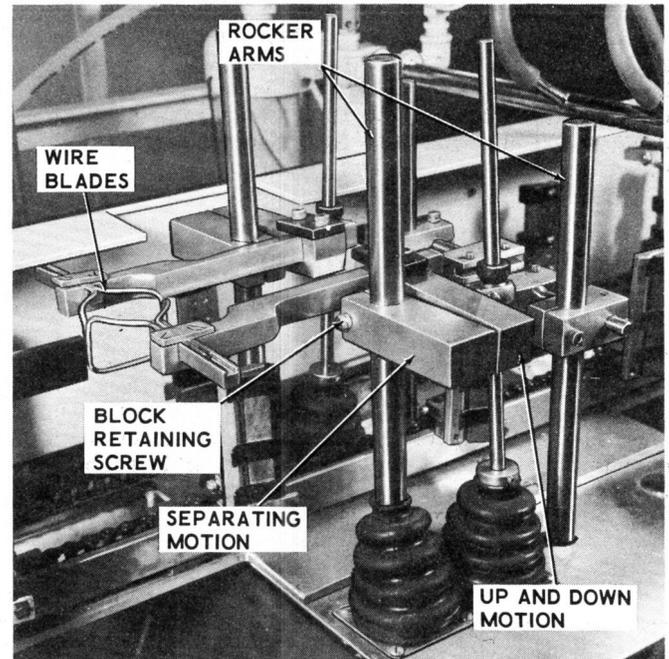

Figure 3-53. Wire Opener
This mechanism (Figure 3-53) opens the pouch during the fill operation by means of two wire blades. The wire blades are attached to rocker arms mechanisms which are actuated by a cycle shaft cam. The opener arms move down which places the wire blades into the pouch. Horizontal, outward motion is accomplished by a mating mechanism which acts to separate the two wire blades and thus open the pouch. This type of opener can be used with most web materials. Adjust the wire openers as follows:
a. Cycle Packager until high lobe of opener mechanism cam (Figure 3-53) is in up position.